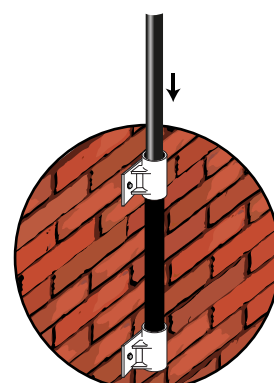

Fig 13.
11. Mount the pole into the socket, ensure that it touches the bottom of the socket. (Fig 13)